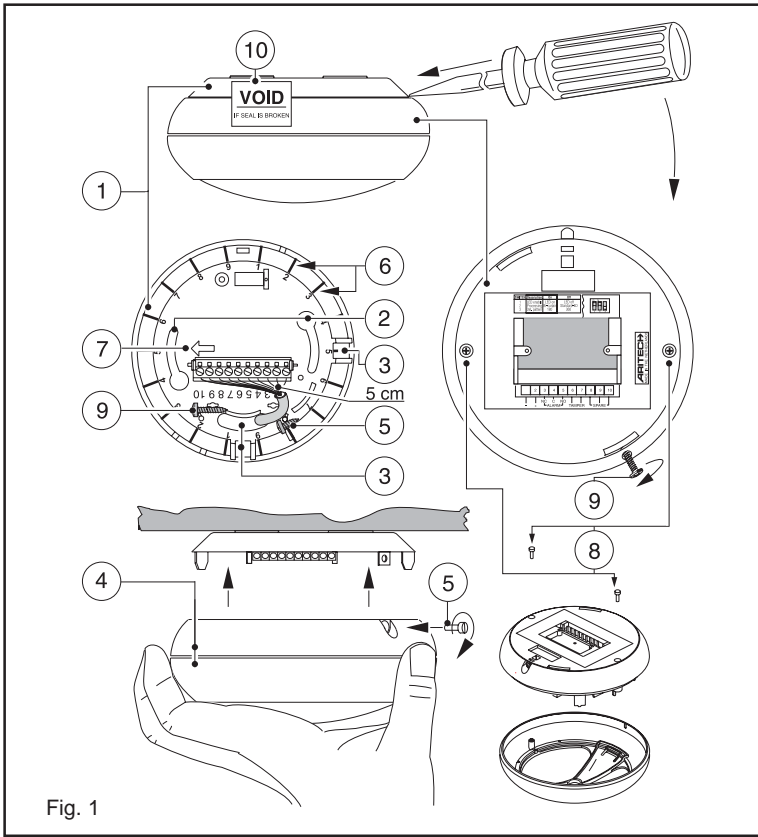
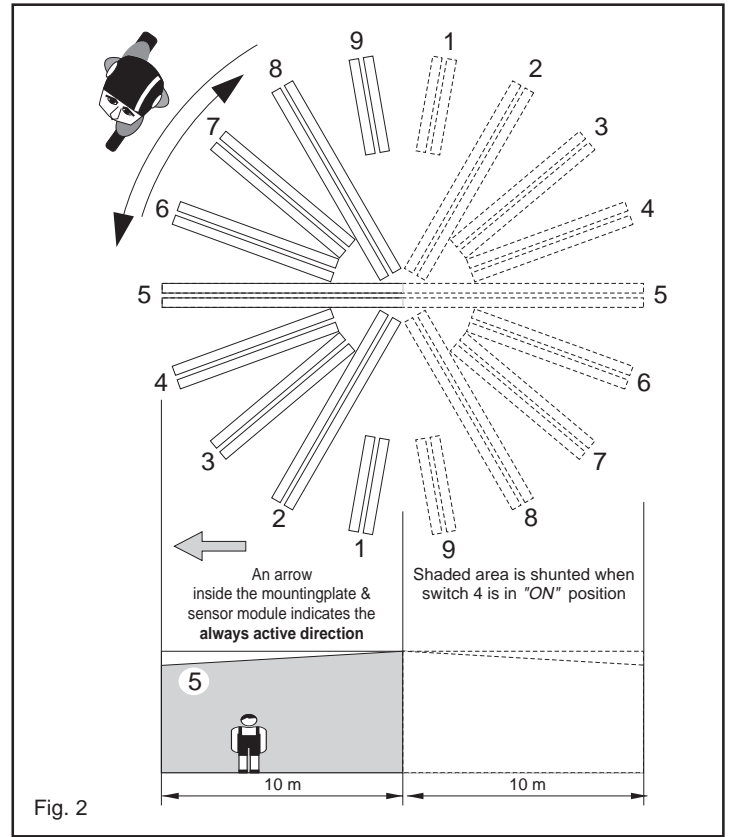

Fig. 1
Fig. 2
MOUNTING INSTRUCTIONS (Fig. 1)
SITING THE DETECTOR (Fig. 2)
Note: The arrow (Fig. 1 ⑧ and Fig. 2) indicates the centre curtain direction and the active direction when switch 4 "ON".
Undo screw ⑧ and open the sensor module ④ (Fig. 1). The two mirrors are accessible now.
INSTRUCTIONS DE MONTAGE (Fig. 1)
EMPLACEMENT DU DÉTECTEUR (Fig. 2)
Remarque: La flèche (Fig. 1 ⑦ et Fig. 2) indique la direction du rideau central et la direction active lorsque l'interrupteur 4 est sur "ON".